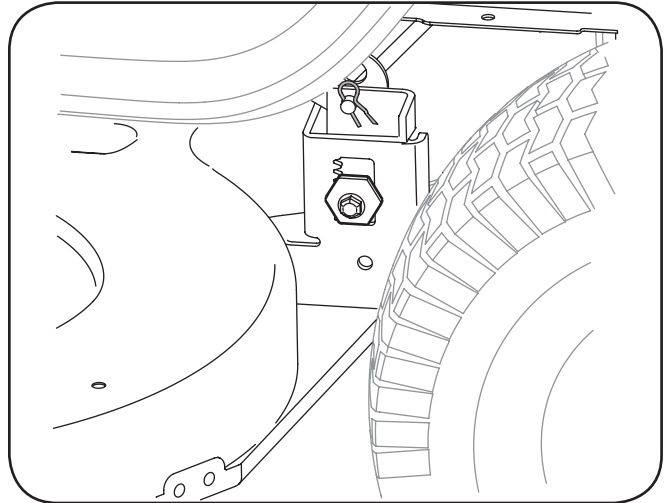

Figure 7-2 - 38" Deck
5. **On 38" Decks:** Looking at the cutting deck from the left side of the tractor, locate the bow tie pin that secures the deck support rod on the rear left side of the deck. See Fig. 7-2. Remove the bow tie cotter pin that secures the deck support rod and carefully remove the deck support from the deck lift arm. Repeat on the tractor's right side.